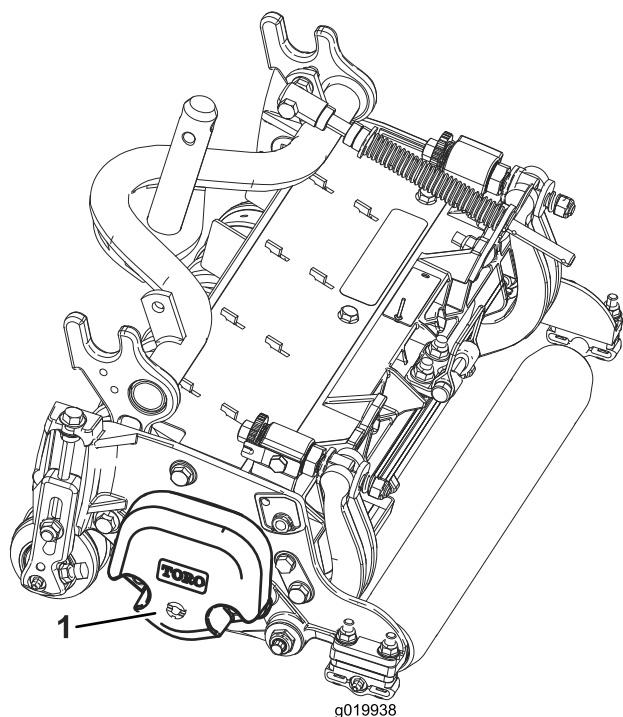

Figure 3
5. Make sure that the counterweight (Figure 3) is installed to the proper end of the cutting unit as described in the cutting unit *Operator's Manual*.